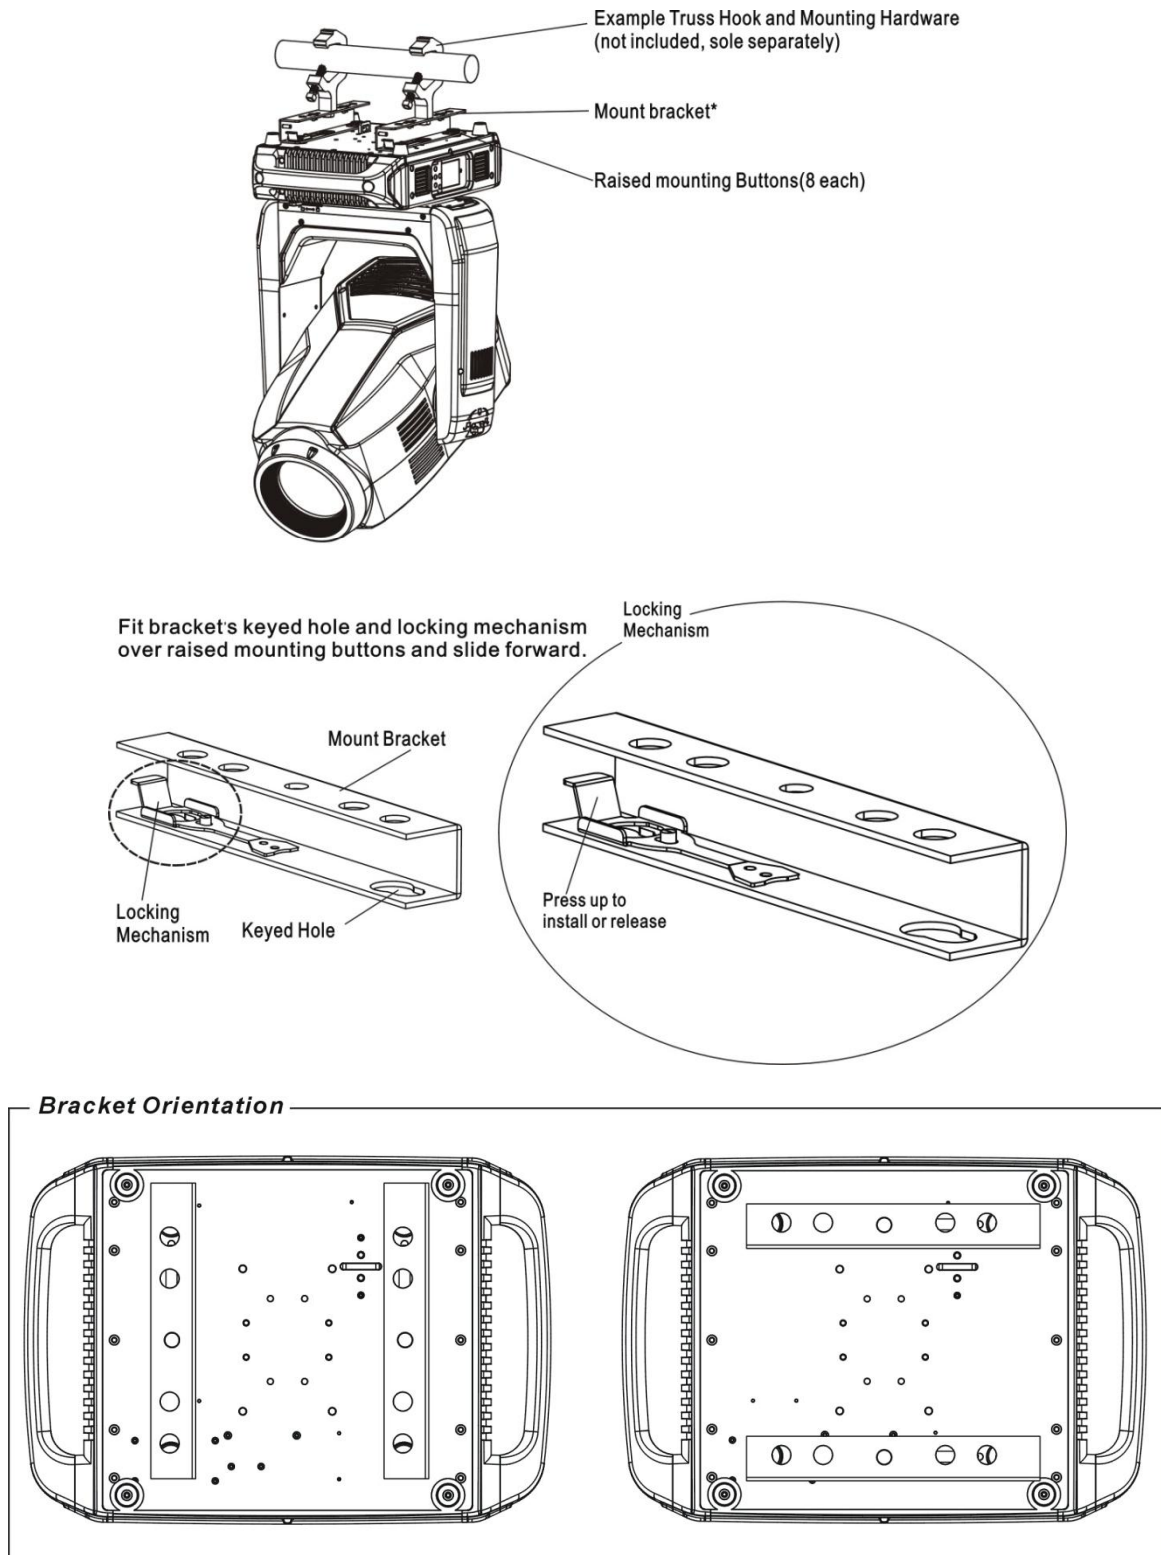

Figure 2-3: Installing Brackets on Luminaire Enclosure
Step 2. Determine required configuration of bracket installation. Brackets may be installed in many different orientations as shown in **Figure 2-3**.